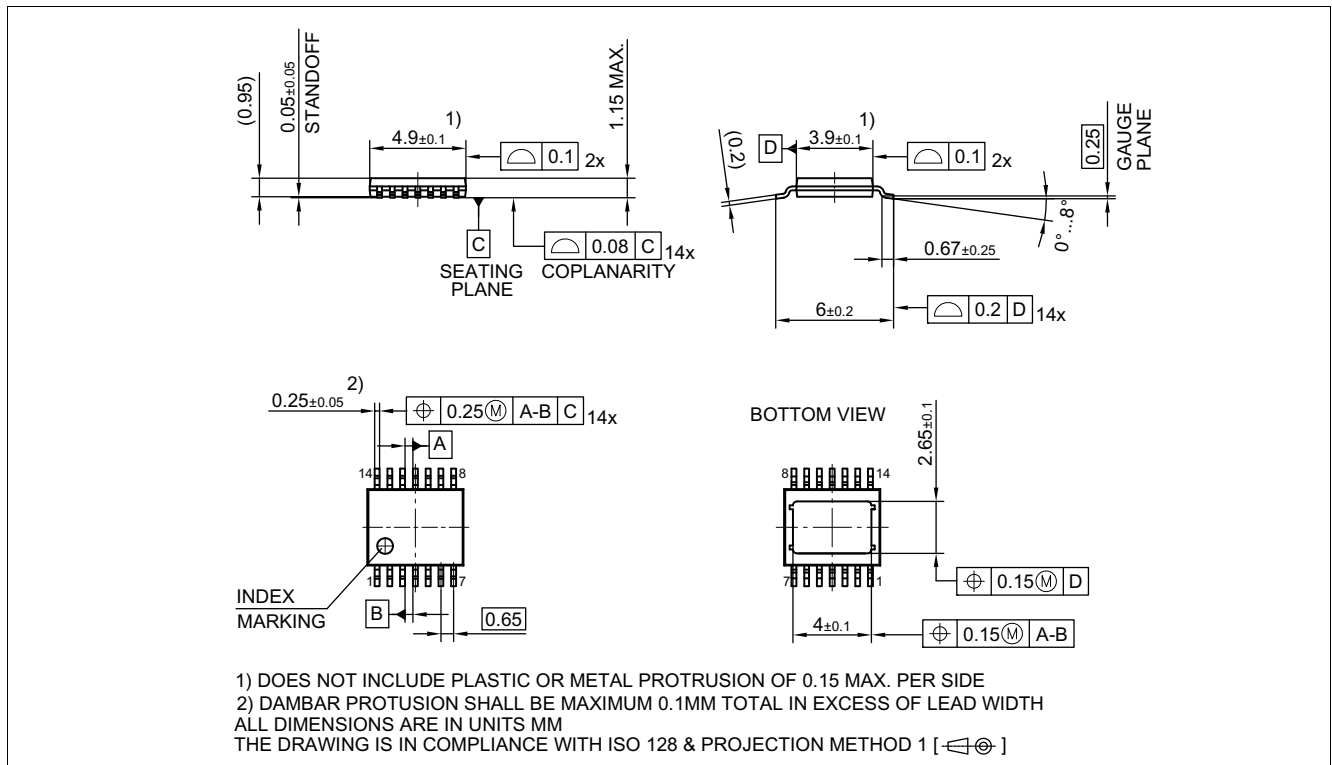
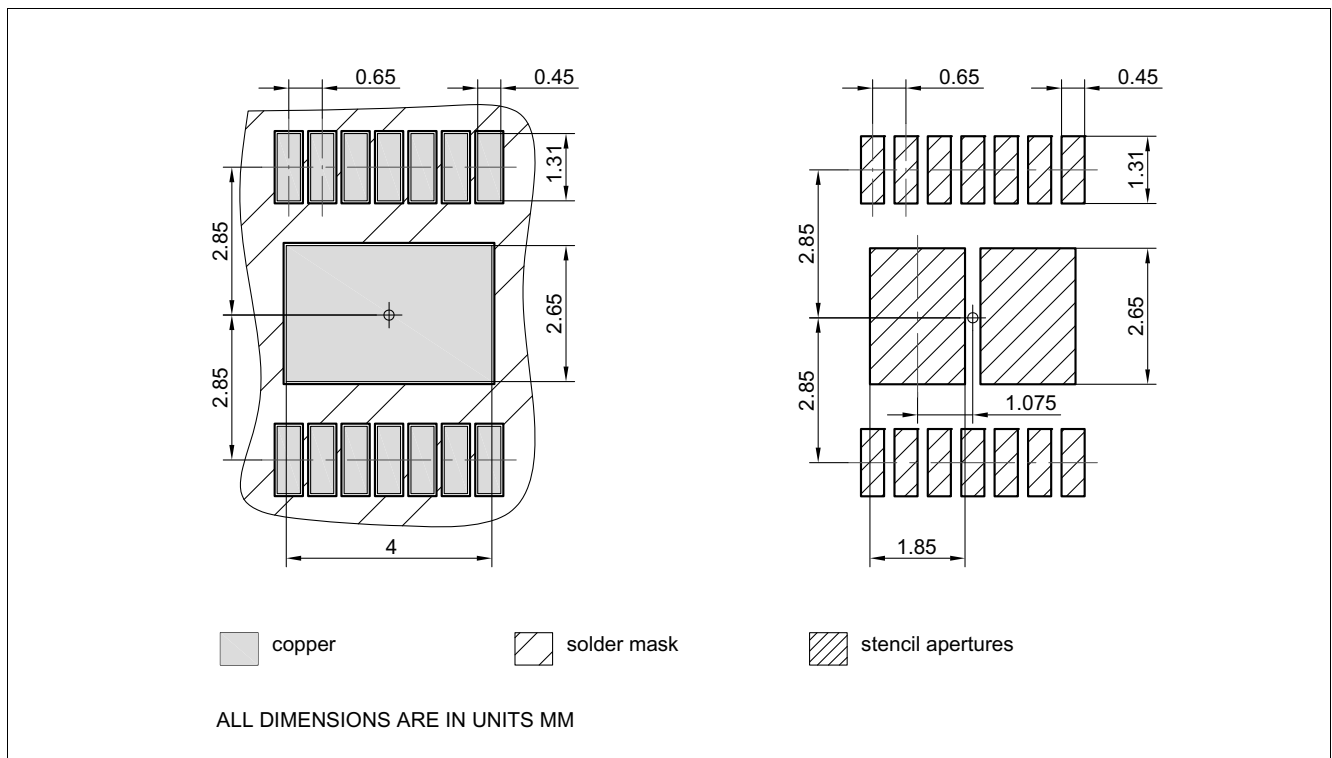

Figure 44 PG-TSDSO-14 (Thin (Slim) Dual Small Outline 14 pins) Package Outline
Figure 45 PG-TSDSO-14 (Thin (Slim) Dual Small Outline 14 pins) Package pads and stencil
1.04 , 2019-06-26	Chapter 9.2 updated ($2V \rightarrow V_{DS(OLOFF)}$) General: updated (ReverSave™ → ReverseON) Chapter 1 updated ((inserted headline "Product Validation"), (Qualified in accordance with AEC Q100 grade 1 → Qualified for automotive applications. Product validation according to AEC-Q100 Grade 1.)) General: updated Product Name (PROFET™+2 → PROFET™+2 12V) Page 1: updated figure product Table 24 updated punctuation Chapter 9.3.1 updated (typo) Page 1: updated (Package PG-TSDSO-14-22 → Package PG-TSDSO-14) Figure 29 updated Figure 44 updated (PG-TSDSO-14-22 (Thin (Slim) Dual Small Outline 14 pins) Package Outline → PG-TSDSO-14 (Thin (Slim) Dual Small Outline 14 pins) Package Outline) Figure 45 updated (PG-TSDSO-14-22 (Thin (Slim) Dual Small Outline 14 pins) Package pads and stencil → PG-TSDSO-14 (Thin (Slim) Dual Small Outline 14 pins) Package pads and stencil) Table 1 updated ((Symbol: $I_{VS(SLEEP)} \rightarrow I_{VS(SLEEP)_{85}}$), (Parameter: Minimum Overvoltage protection ($T_J = 25^\circ C$) → Minimum Overvoltage protection ($T_J \geq 25^\circ C$)) P_9.6.0.6 updated (Note or Test Condition: removed unnecessary line-break)